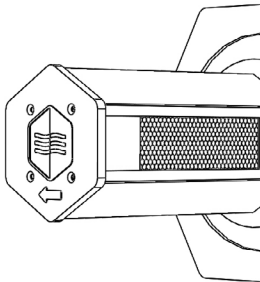

Fig. 2 Orient device in proper airflow direction as indicated
- Be sure to orient the device for proper airflow through the ionizing cell. Proper airflow direction is indicated by an arrow on the tip of the ionizing cell. (See Fig. 2)
- Insert device into opening and secure with knurled nuts. **Note: Be sure airflow will pass in the proper direction as indicated by the arrow on the top of the ionizing cell.** (See Fig. 2)